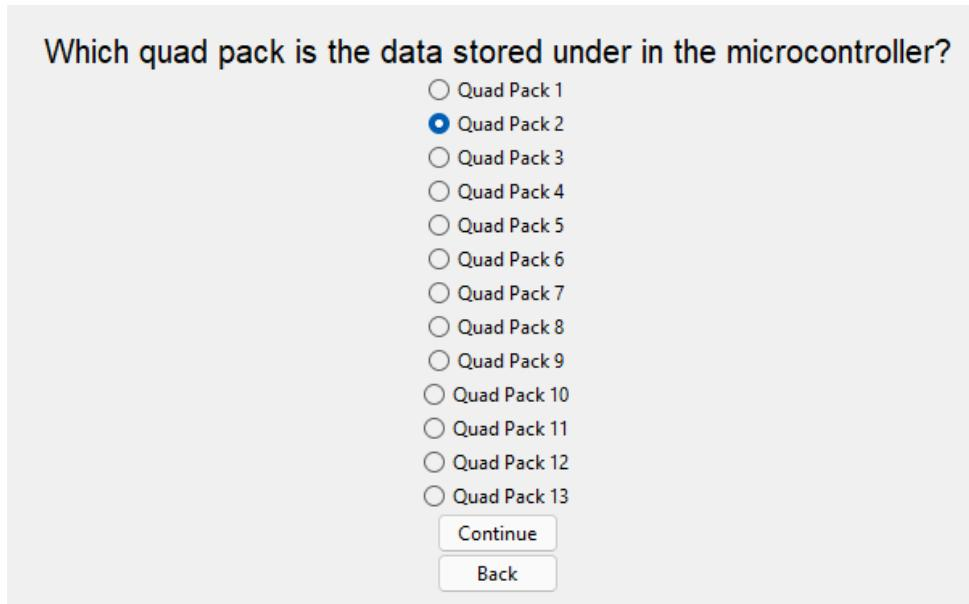

Figure 3.17 - Quad Pack Selection Screen (TS)
3: The screen in figure 3.17 will be displayed. Identify which quad pack the data you wish to retrieve from the local interface is stored under. See section 2 to determine how to view the data stored under each quad pack. Select a quad pack and then press “Continue”. Press “Back” to return to the main menu (TS).